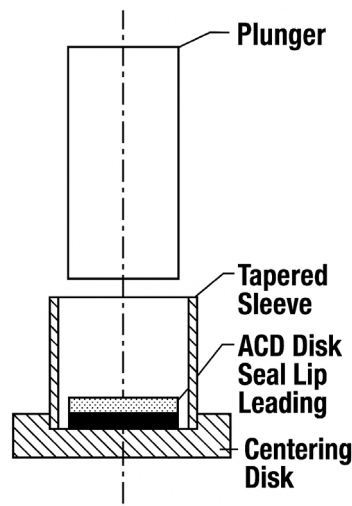

Figure 4
2. Center tapered sleeve on centering disk and push plunger downward to partially insert the seal lip of the clamp disk into the centering disk. Fig. 4
*See Figures 4 & 5